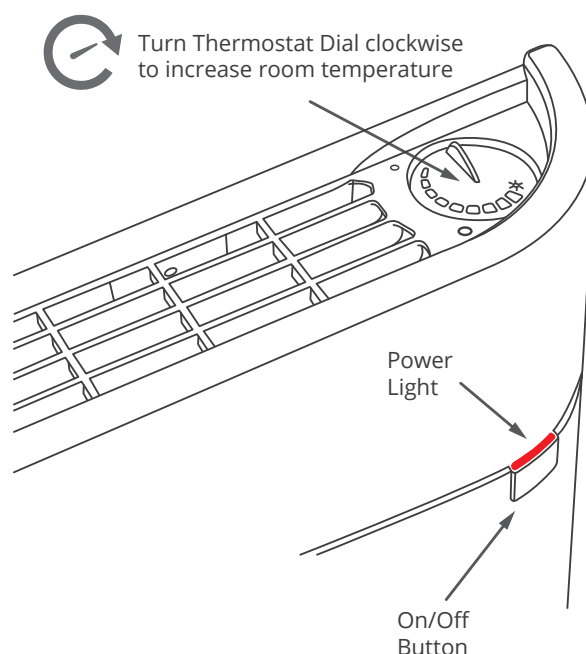

Fig. 12
- 2 Once the heater is connected, press the front on/off power button and the POWER INDICATION LIGHT will glow red. (Fig. 12)
COUNTER-CLOCKWISE until the temperature is more comfortable. (Fig. 12)